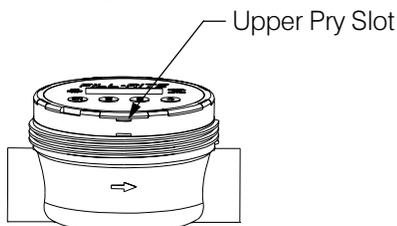

Figure 4
1. Unscrew meter cap (item 1). Use a strap type oil filter wrench or large 5" jaw pipe wrench if needed.
2. Insert a wide flat-head screw driver into the top slot (see Figure 4) and gently pry up electronics module.